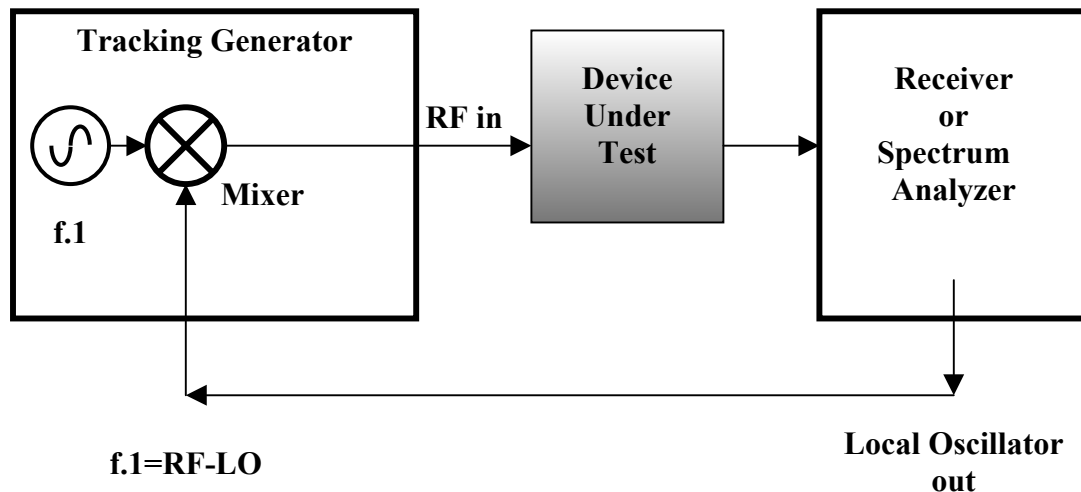

Figure 1. Basic setup for swept frequency measurement using a tracking signal generator
Tracking generators are signal sources with their frequency controlled by a frequency sweeping receiver or spectrum analyzer. The typical block diagram of such a system is given in figure 1:
2. The amplitude settings of the tracking generator are left unchanged from step 1, and the device is inserted as in figure 1. The measurement is now repeated. The result is stored in the receiver/spectrum analyzer's memory.
In the case of the setup of figure 1, the frequency match accuracy is governed by the accuracy of the frequency of the internal oscillator in the tracking generator,  $f_1$ . This accuracy requirement is especially important when measuring narrow band devices such as filters, and especially those with steep slopes, such as band pass or band stop filters. Inaccuracy in the frequency match (RF in versus the tuned frequency of the receiver or spectrum analyzer), will result in erroneous results in the measurement of the steep slope characteristics.